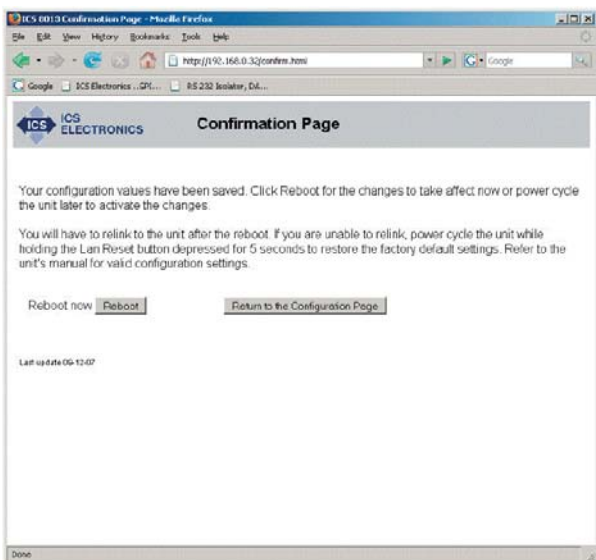

Figure 4-5 9006 Confirmation Page
7. Enter the new settings as desired. If you select DHCP for the TCP/IP Mode, the page blanks out the IP, Net and Gateway addresses as they will be supplied by your DHCP server. Check the entered values carefully as the unit's webserver does minimal error checking. Press the 'Update Flash' button when done. A Confirmation Page similar to the one shown in Figure 4-5 will appear in your browser.